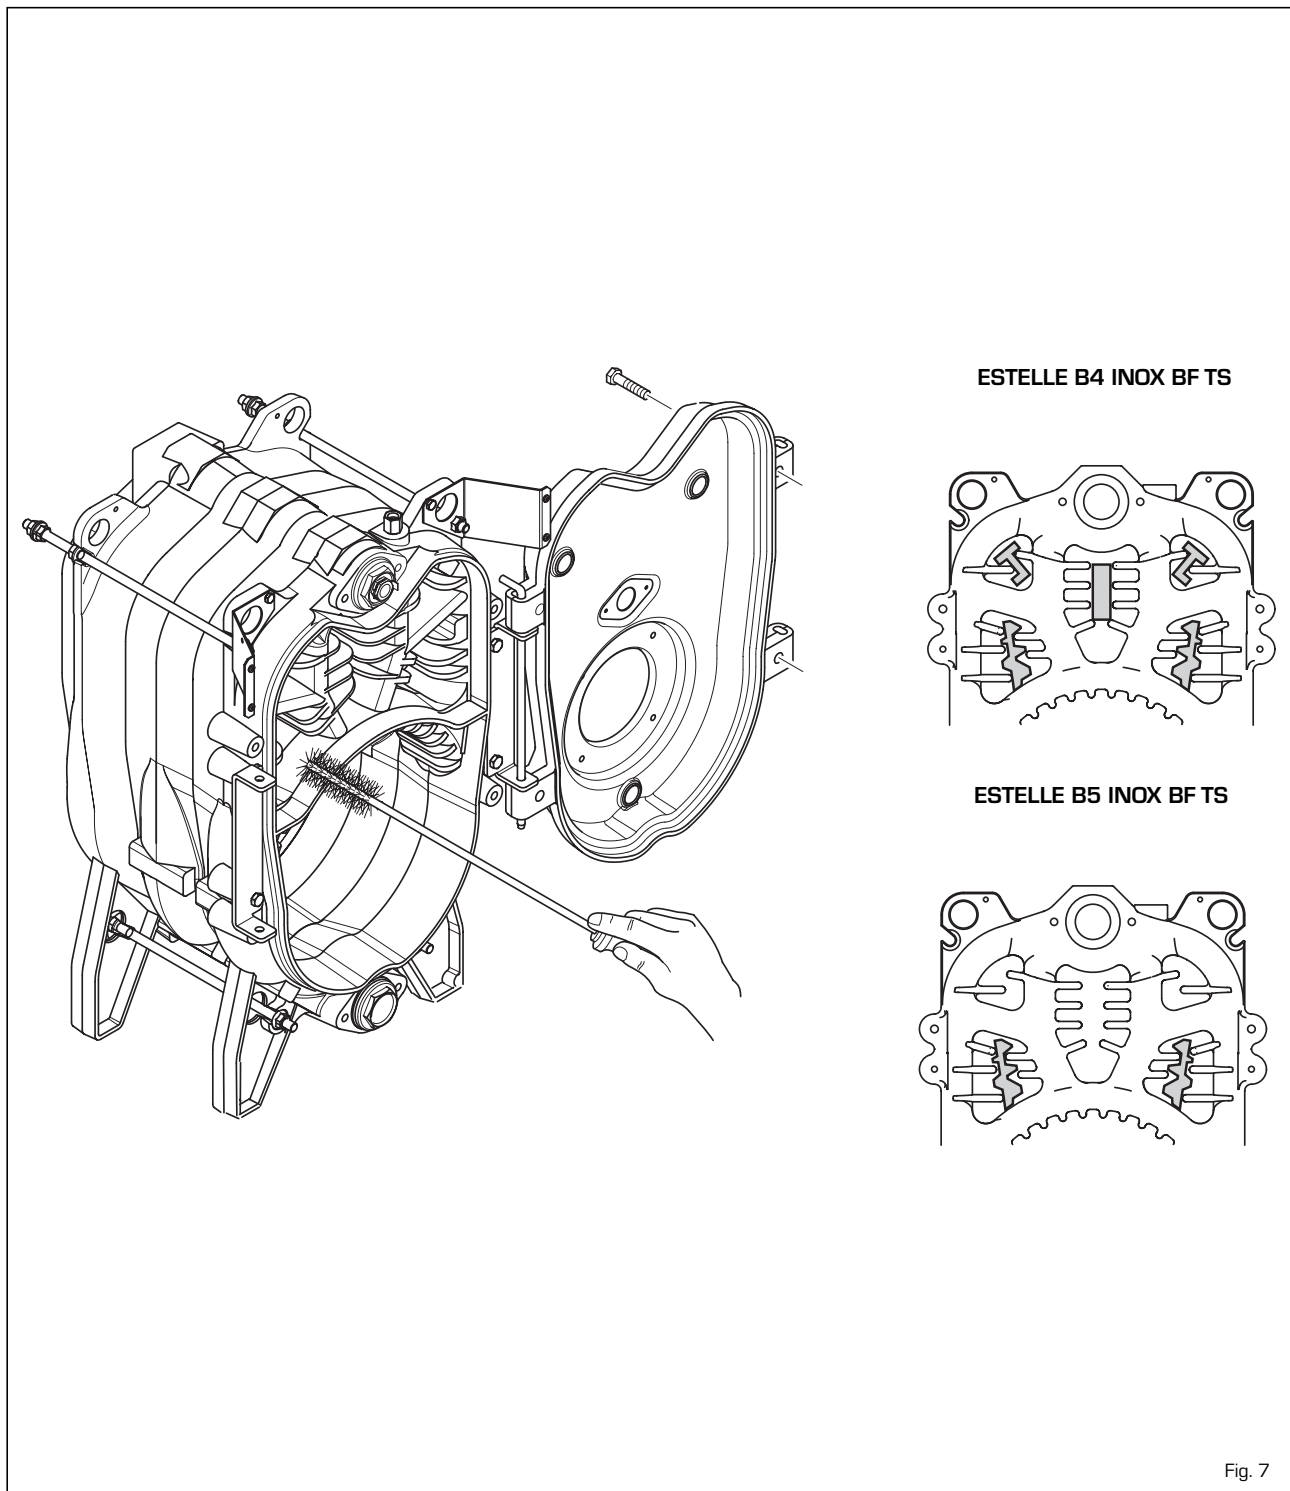

Fig. 7
3.3.1 Smoke side boiler (fig. 7)